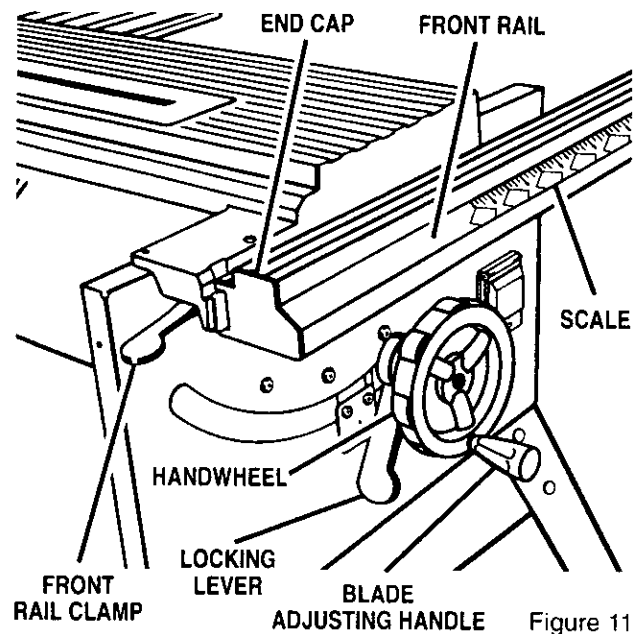

Figure 11
- Loosen the front rail clamps one-half (1/2) turn from the tightened position. Loosen the square rail holder nut one-fourth (1/4) turn to allow the front rail to slide over it. *See Figures 11 and 12.*